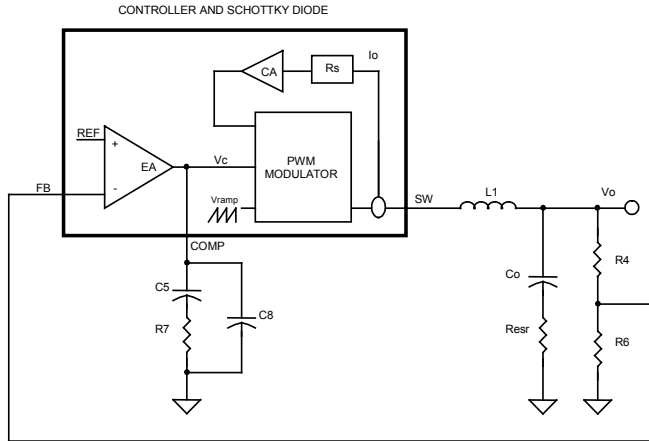

Figure 7. Block diagram of control loops
The block diagram in Figure 7 shows the control loops of a buck converter with the SC4524A. The inner loop (current loop) consists of a current sensing resistor ($R_s=6.1m\Omega$) and a current amplifier (CA) with gain ($G_{CA}=28$). The outer loop (voltage loop) consists of an error amplifier (EA), a PWM modulator, and a LC filter.
For a converter with switching frequency F_{sw} , output inductance L_1 , output capacitance C_o and loading R , the control (V_c) to output (V_o) transfer function in Figure 7 is given by: